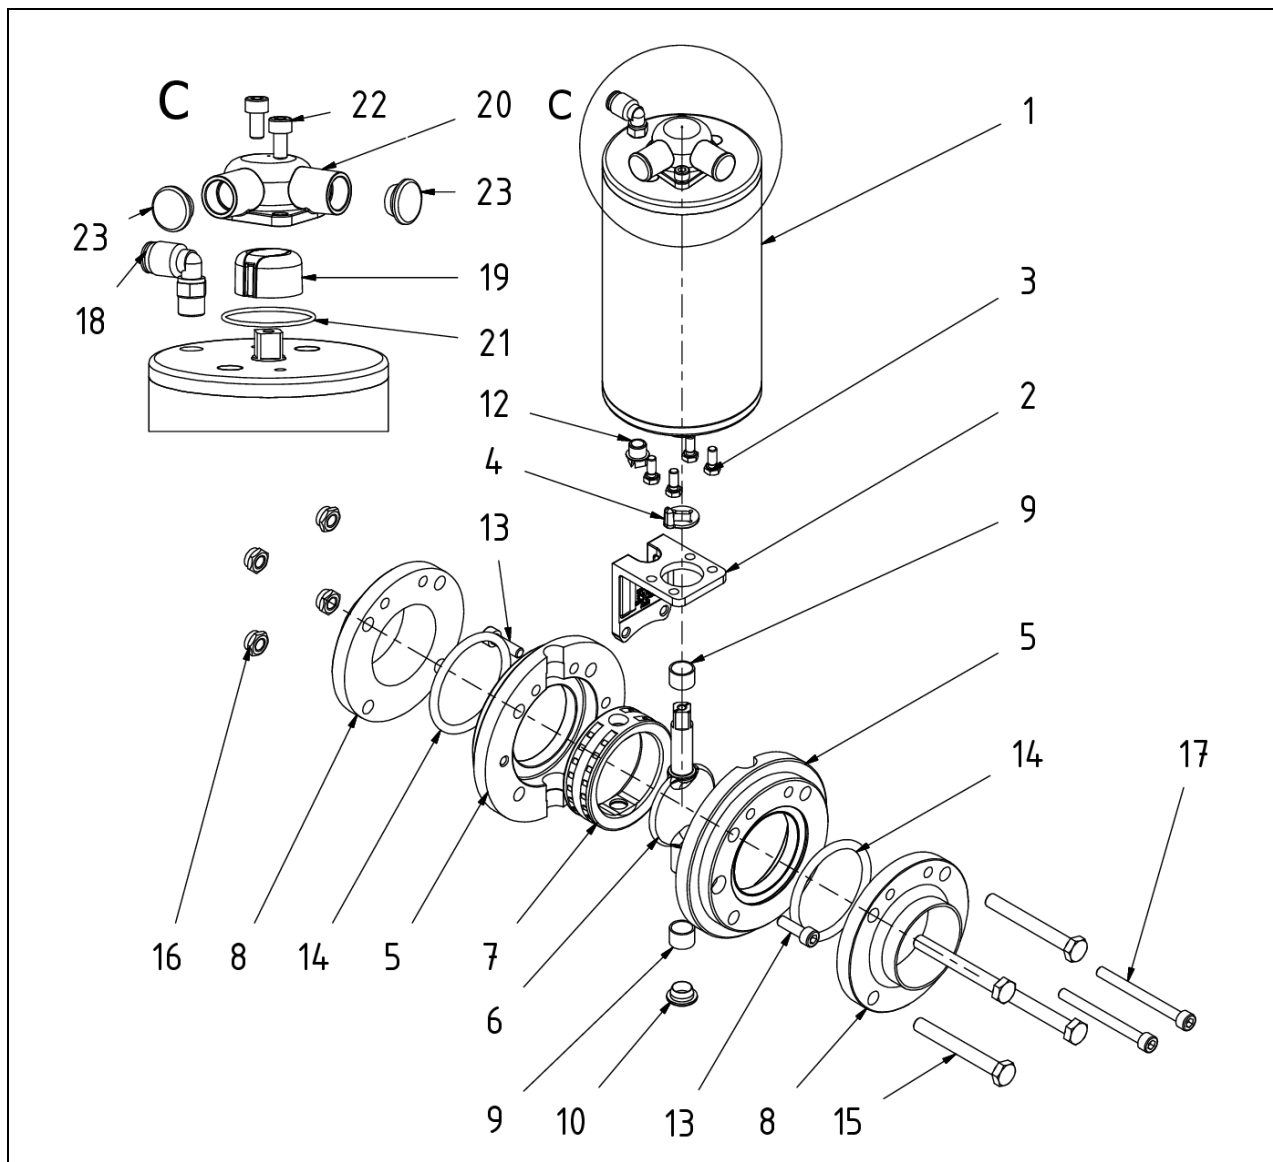

Fig. 6.4: Structure of Compact Butterfly Valve with pneum. Actuator VMove
- Bolt the valve and the outer flanges together using the hexagonal bolts (Fig. 6.4, item 15) and hexagonal nuts (Fig. 6.4, item 16).
Item 18 does not apply for nominal widths DN 10, 15 or 20. In these cases, the holding bracket is also held in place by the hexagon bolts (Fig. 6.4, Pos. 15).